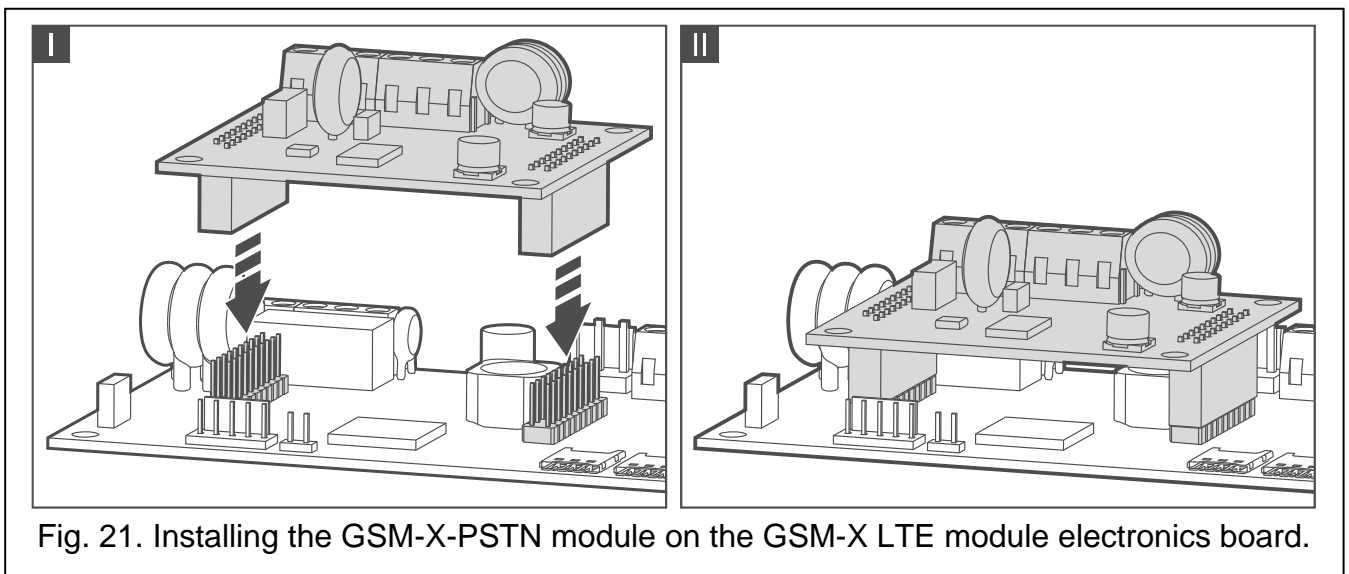

Fig. 21. Installing the GSM-X-PSTN module on the GSM-X LTE module electronics board.
3. Install the GSM-X-PSTN module in the connectors on the GSM-X LTE module electronics board (Fig. 21).